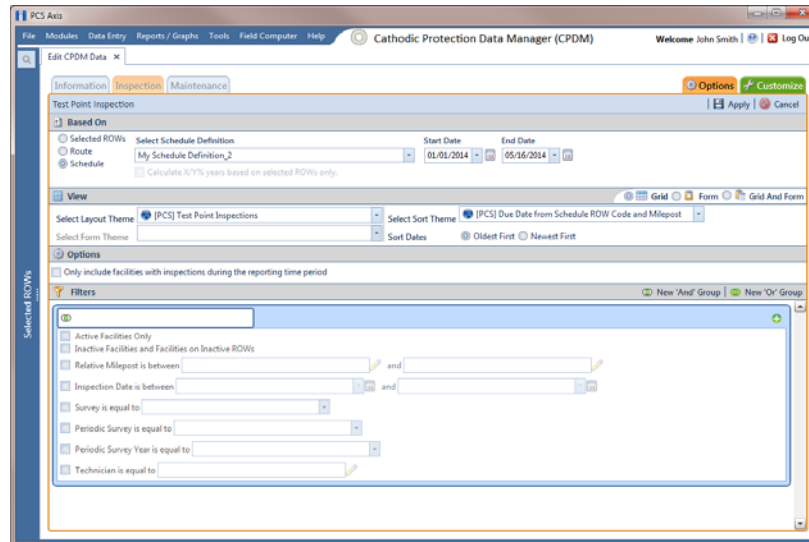

Figure 7-40. Options
- 5 Click the **Options** tab  to open the options page (Figure 7-40).